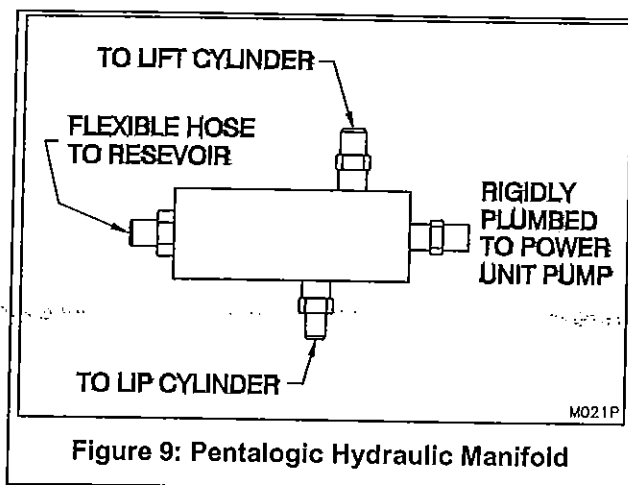

**Figure 8: Power Unit & Push Button Location**
1. Mount push button and power unit on wall. (See Figure 8, page 6) Mount the power unit horizontally with reservoir breather facing up.